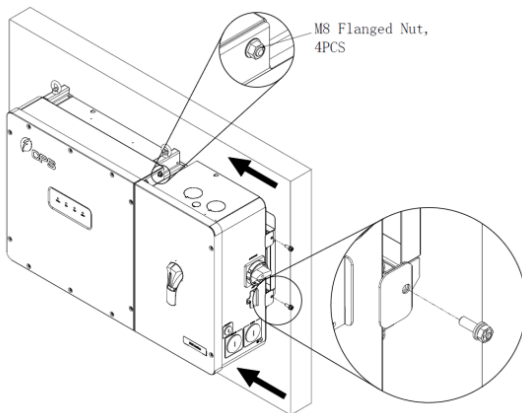

Figure 3-16 Installation of the Wire-box
- C. Connect the wire-box to the main enclosure, using the **M8 Flanged Nut** (4pcs) (torque: 12.5Nm (110.6 in-lbs)). Secure the wire-box to the bracket with **M6x18** combination screw (torque: 6Nm (53 in-lbs)) (**Figure 3-16**). **This connection provides the ground bond for the Inverter (Main) Enclosure. Failure to properly install may result in shock or equipment failure.**